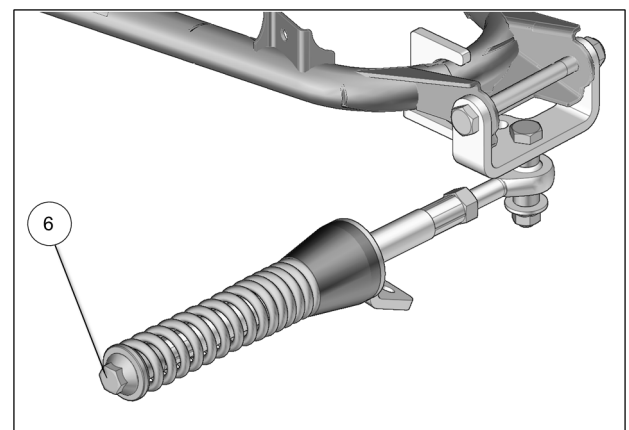

Fig. 13
12. Verify that spring assembly bolt (6) is tightened to the recommended torque specification: 75 N•m [55 lb•ft]. Refer to Fig. 13